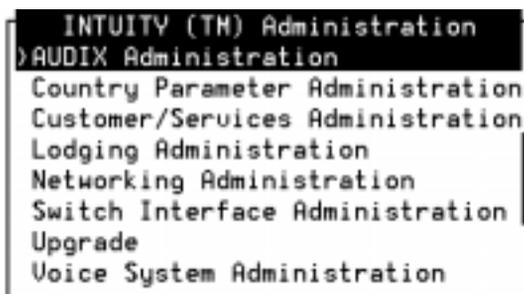

Figure 3-1. Lucent INTUITY Main Menu
2. Start at the Lucent INTUITY main menu (Figure 3-1 on page 3-3).
12. Press `F6` (Cancel) three times to return to the Lucent INTUITY main menu (Figure 3-1).
2. Starting at the Lucent INTUITY main menu (Figure 3-1), select
18. Press **F6** (Cancel) three times to return to the Lucent INTUITY main menu (Figure 3-1).